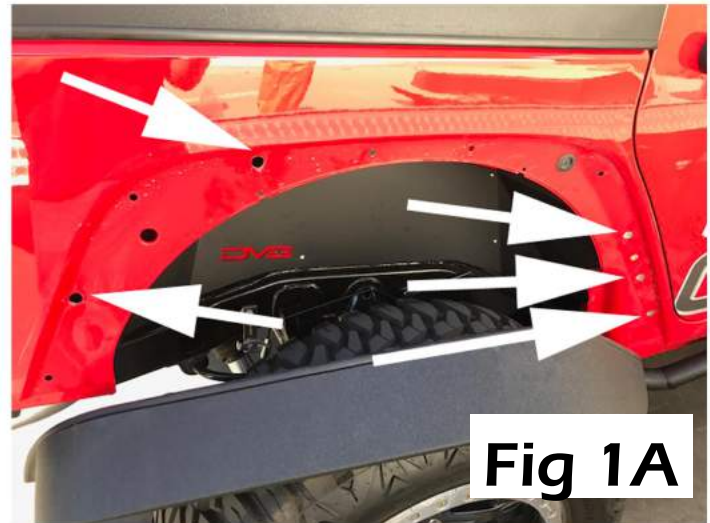

Fig 1A
**Step 3: Starting with the rear fender install the nutserts into the holes shown in figure 1A**